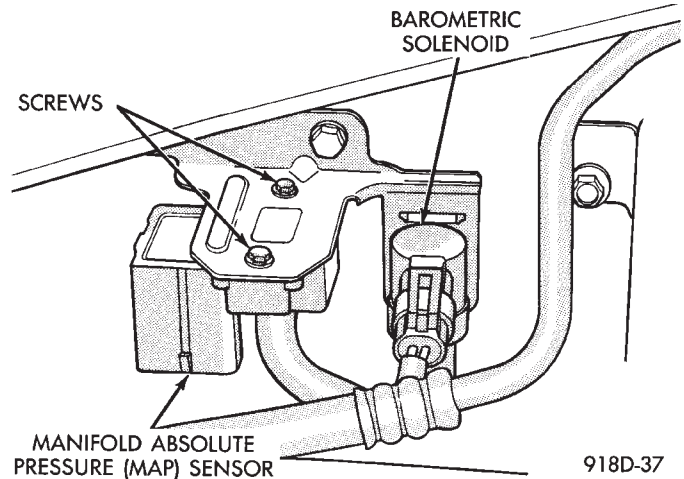

Fig. 13 Manifold Absolute Pressure Sensor
- (1) Remove vacuum hose from MAP sensor (Fig. 13).
- (2) Remove MAP sensor mounting screws (Fig. 13).
- (3) Remove electrical connector. Remove sensor.
- (4) Reverse the above procedure for installation.